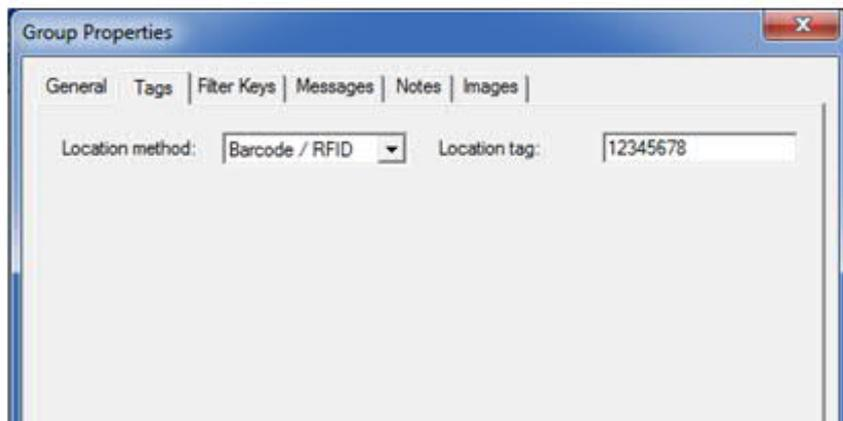

Figure 2. Tags tab
3. Right-click on Pulley 001 and select Properties, and then navigate to the Tags tab. Ensure the Location method field has "Barcode / RFID" selected and verify the Location tag correctly reflects the barcode of the Pulley 001 equipment. [Figure 2] Click OK to close the dialog.